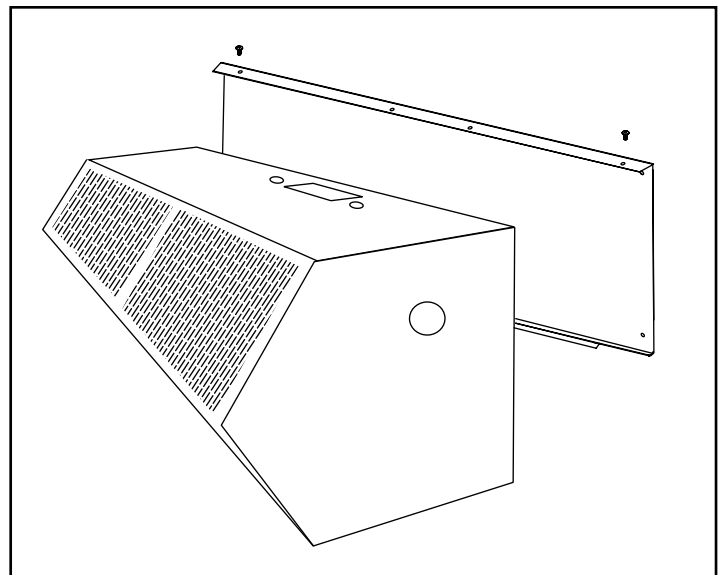

FIGURE 1
ACCESSORIES: The air curtain ships with a wall mounting plate; remove and save the two (2) locking screws from the back corners and detach the wall mounting plate. **See FIGURE 1.**